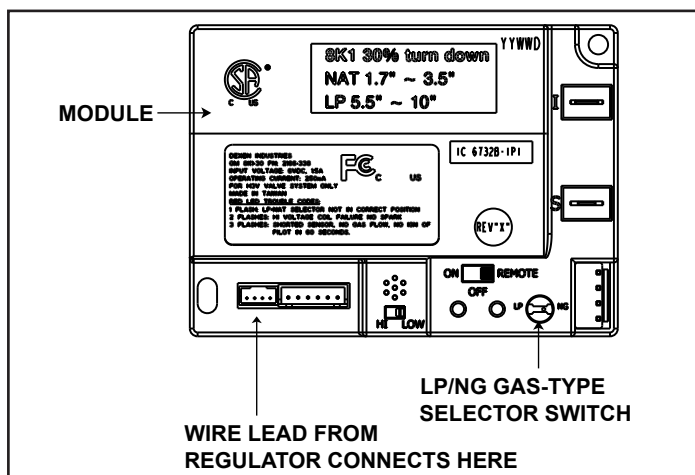

Figure 3.7 - Control Module
1. The control module has an ON/OFF/REMOTE selector switch that must be set. Figure 3.7.
2. If using the wired switch in the control cavity with the module in REMOTE mode, the flame output can be adjusted with the HI/LO selector switch on the module. Figure 3.7. Note that the flame HI/LO selector switch will become inactive once an optional remote control (RC200/RC300) is programmed to the control module. Note that the control module will always ignite the stove on HI and remain so for the initial 10 seconds of operation. If the HI/LO is switched to the LO position, the flame output will automatically drop to the lowest setting after the flame has been established for 10 sec. After this 10 second period, the flame can be adjusted from HI to LO with the switch.
- Locate the module selector switch. (Figure 3.7).
- Wait five (5) minutes to allow possible accumulated gas to clear.